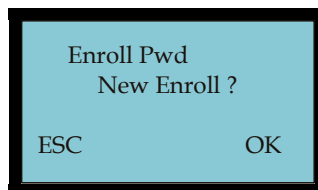

Figure 2-32 Enroll Pwd New Enroll Screen
4. Press **OK** and Enroll Pwd New Enroll? will appear (see **Figure 2-32**).